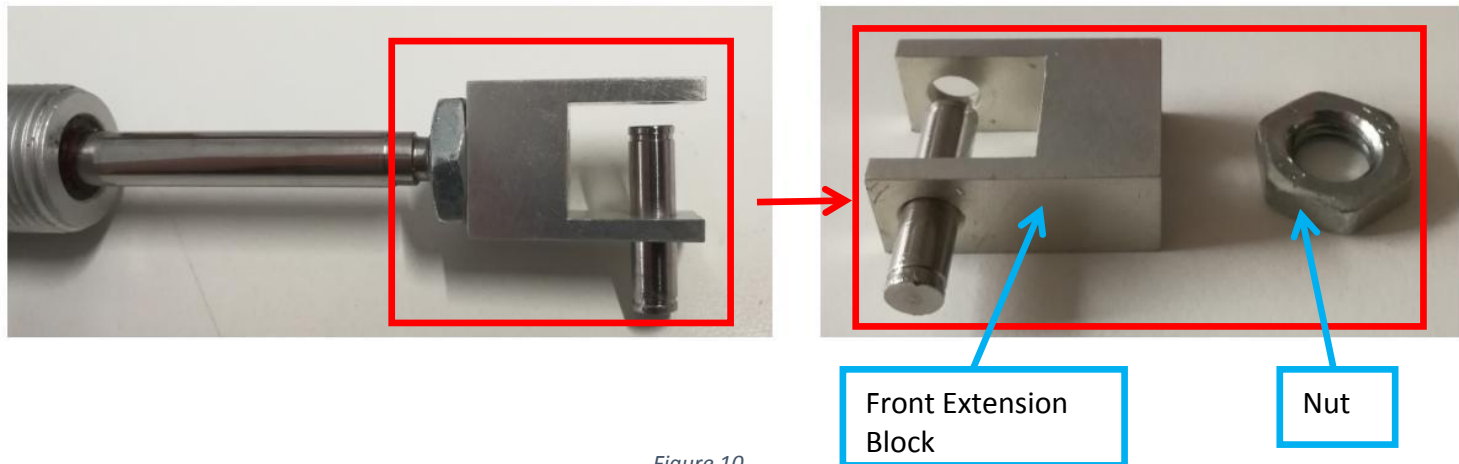

Figure 10
14. Remove Nut & Front Extension Block (With Dowel Pin) as Figure 10